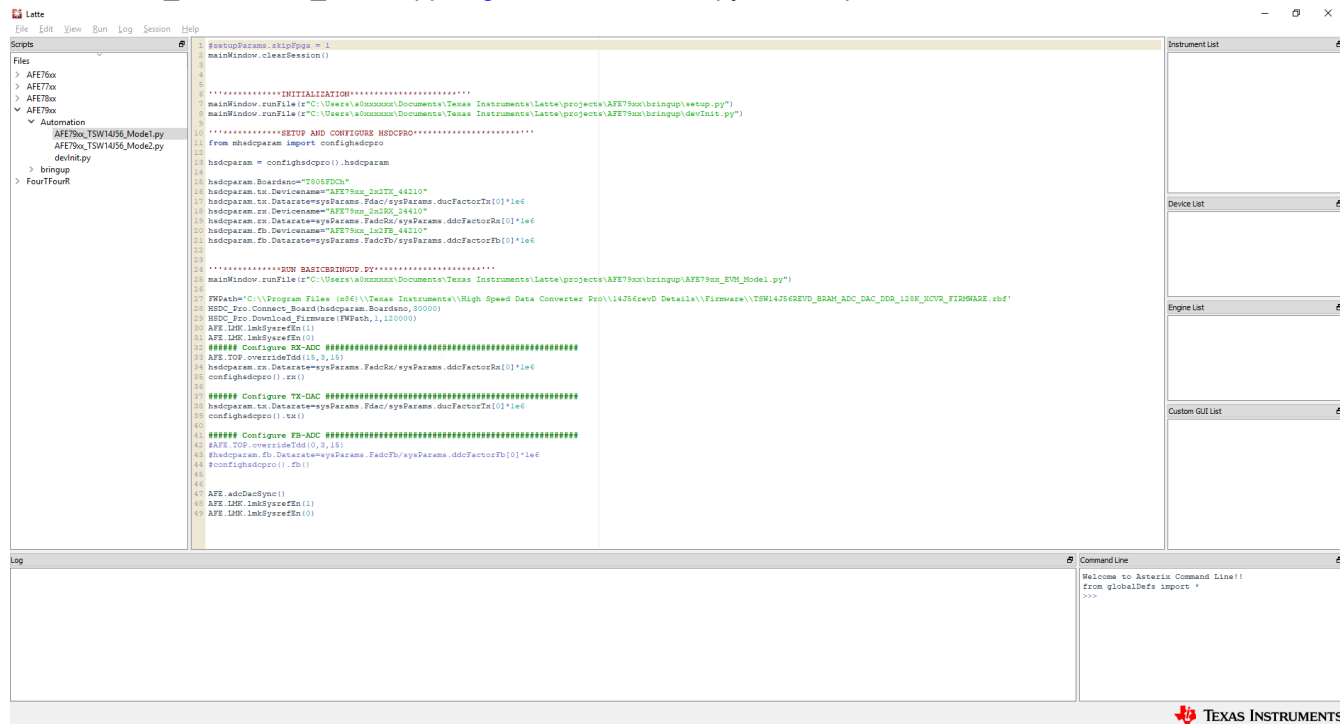

Figure 4-3. AFE79xx Mode 1 Automatic Configuration Script
- On the left side of the Latte application, within the *Scripts* window, expand *AFE79xx > Automation > AFE79xx_TSW14J56_Mode1.py*. Figure 4-3 shows the python script.